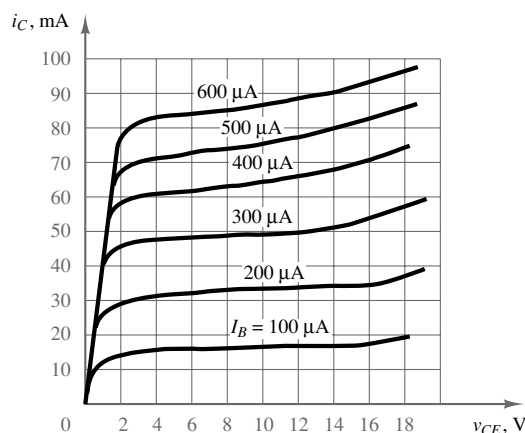

Figure P10.9
- 10.9** The collector characteristics for a certain transistor are shown in Figure P10.9.